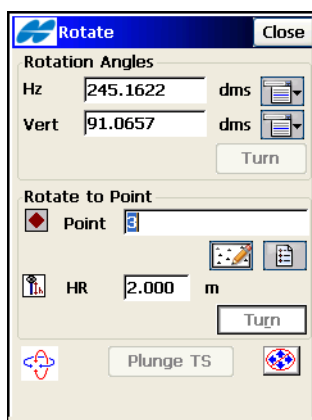

Figure 8-54. Rotate
10. To turn the Total Station, tap the **Turn** button and enter the desired horizontal and vertical angles, or the direction point on the **Rotate** screen. Tap **Turn** in the corresponding field to perform the rotation (Figure 8-54 on page 8-50). Tap **Close** to return to the **Auto Topo** screen.